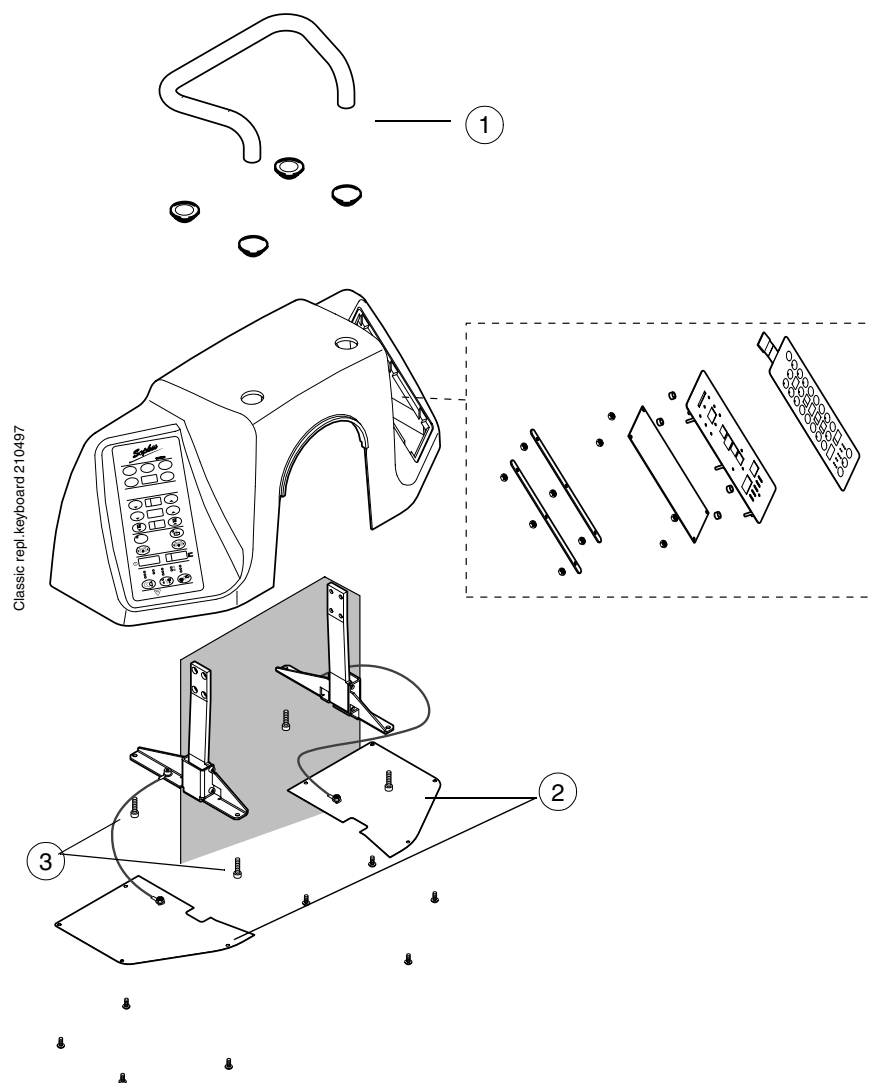

Figure H.6
- a) Remove the transport handle or the handle hole cover plugs (Fig. H.6, 1) from the hood. Remove the hood bottom cover plates (Fig. H.6, 2).
- b) Remove the screws that hold hood to the support plates (Fig. H.6,3). There are two screws on each side of the unit.